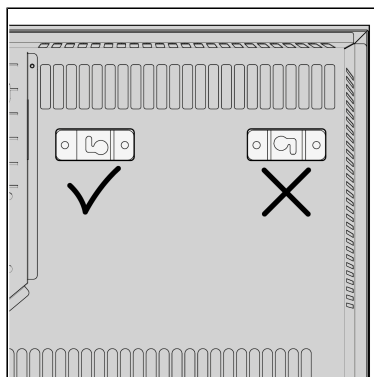

Figure 25.
7. Before installing the brackets on the Alutherm Sani Wi-Fi, double check the orientation (Figure 25).